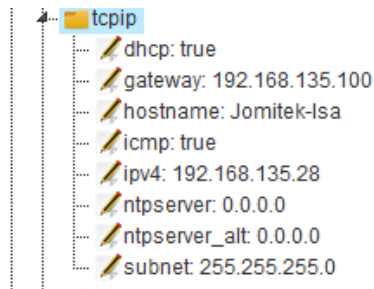

Figure 6: Overview of the web interface showing the TCP/IP settings.
The tcpip setting provides configuration of TCP/IP and (S)NTP settings. The following parameters are available, see figure 6.